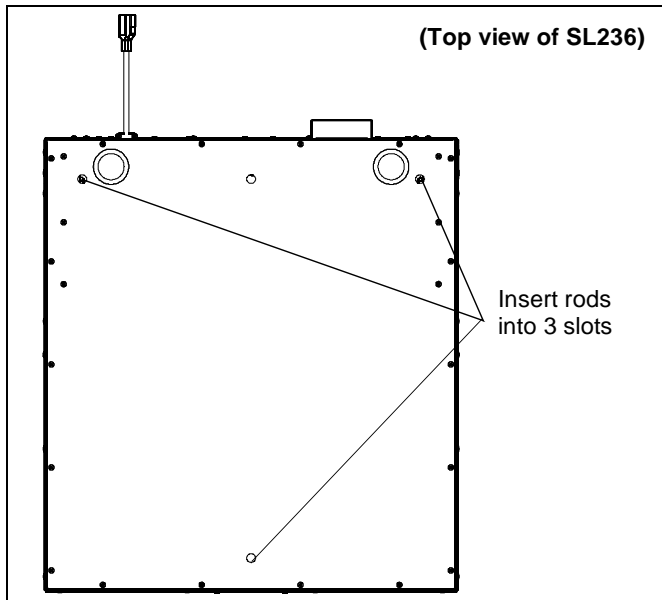

Figure 6
5. Place SL236SP onto threaded rods, inserting the rods into the three slots on top of the SL236SP housing. (See Figure 6)